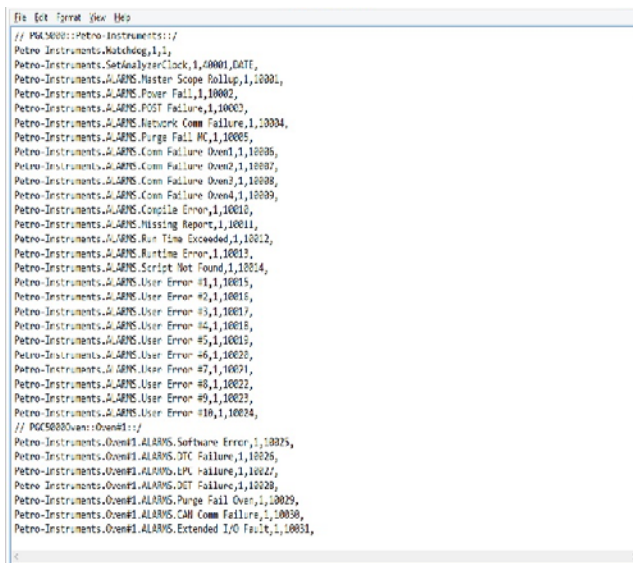

Fig. 7.18. CSV File Example
3. The csv file contains all of the information for the Control system (see Figure 7.18).